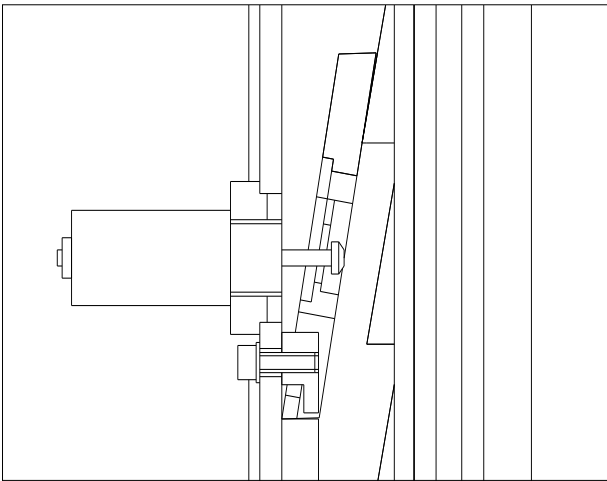

Fig. 30
- ◆ Install safety devices, which including solenoid, self-locking board and hook according to **Fig. 30**.